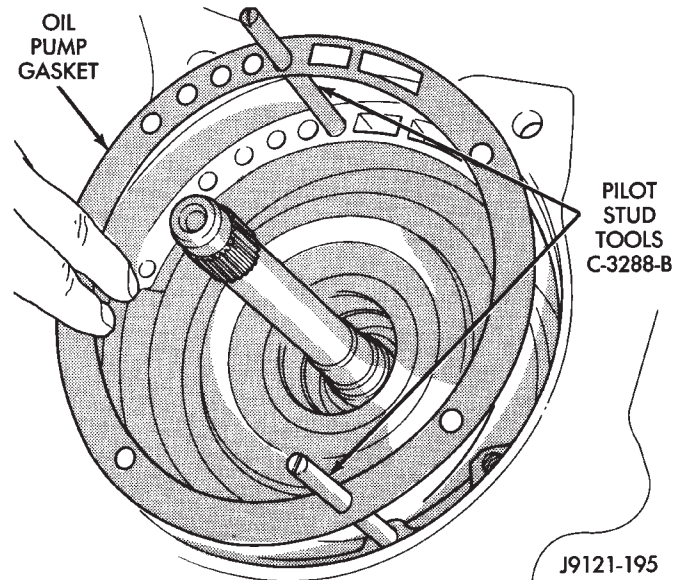

Fig. 157 Installing Pilot Studs And Oil Pump Gasket
(8) Thread two Pilot Stud Tools C-3288-B into bolt holes in oil pump flange (Fig. 157).
(9) Align and install oil pump gasket (Fig. 157).